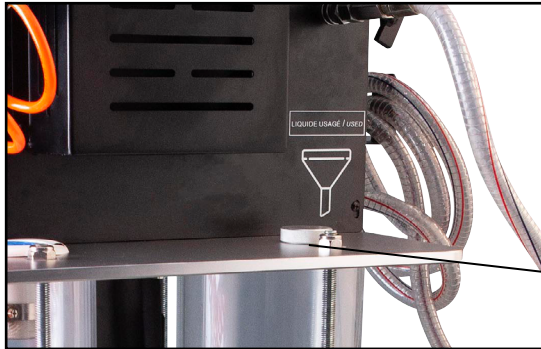

Fig. 19
- Attach the drip tray rod to the back of the unit in the slot above the used fluid container (Fig. 19).